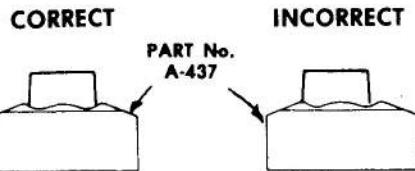

Figure 1
(B) CLINCHER BLOCK — The purpose of the clincher block part No. A-437 for the post machine or A-421 for the arm stitcher is to turn back the legs of the stitch after they have penetrated the work material. To do this, the legs must strike the block with equal spacing from the outside edges of the grooves, as shown in figure 1.